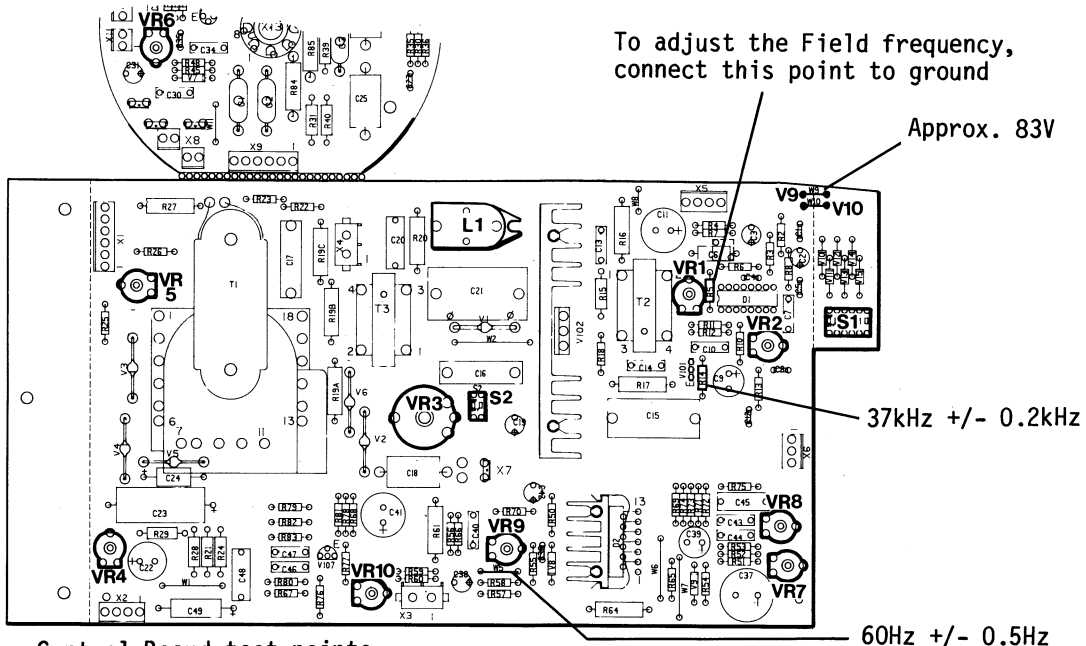

FIG 7.3.1 Monitor Control Board test points
- 5a Set the Line Frequency. The line sync input from the MLB should be grounded at R5, see visual aid Fig 7.3.1. Use a frequency counter connected to jumper W5, adjust VR1 to 37kHz +/- 0.2kHz. See fig 7.3.1.